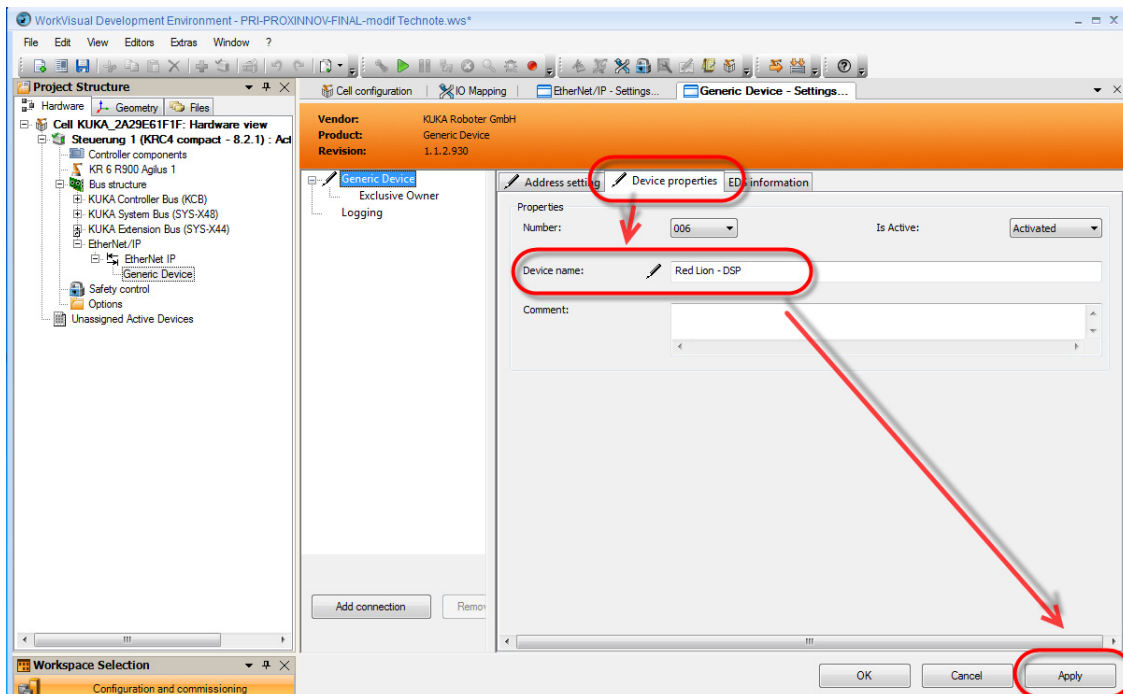

Figure 20.
11. Referring to Figure 20, click on the Device properties tab and enter the Device name : , *Red Lion - DSP* in this example, and click the *Apply* button.